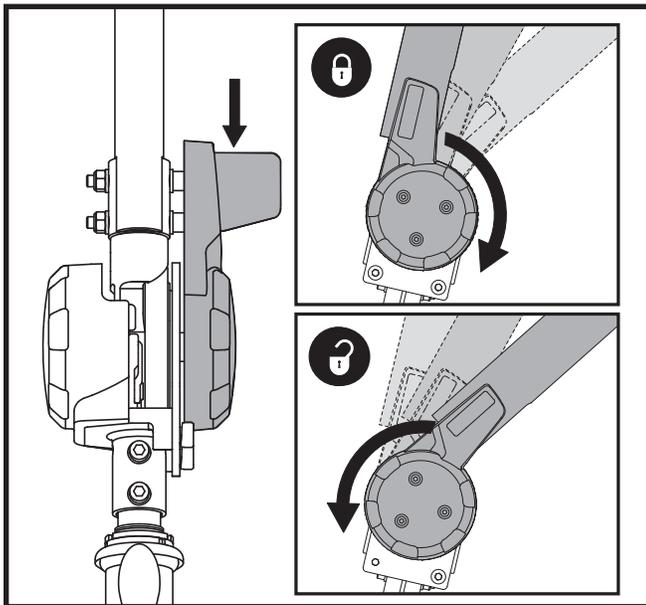

Figure 10. Tiller Adjustment Knob
1. With the seat and battery pack removed (see Disassembly Procedures on previous page), lower the tiller and tighten the tiller adjustment knob. See **figure 10**.
3. Raise the tiller and fully tighten the tiller adjustment knob. See **figure 10**.